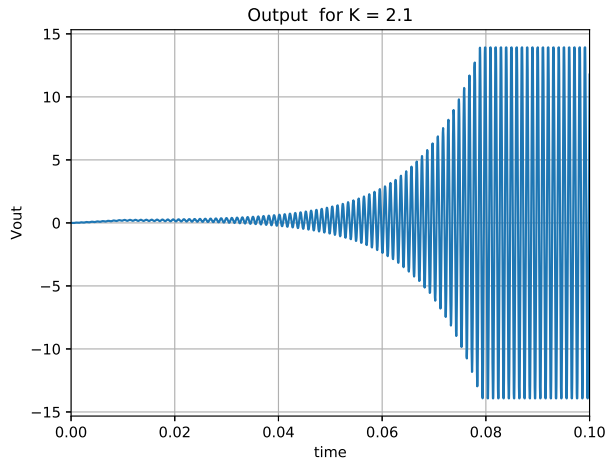

Fig. 8
- Figure 8 is the spice simulated output for K = 2.1 using Table 7 parameters.